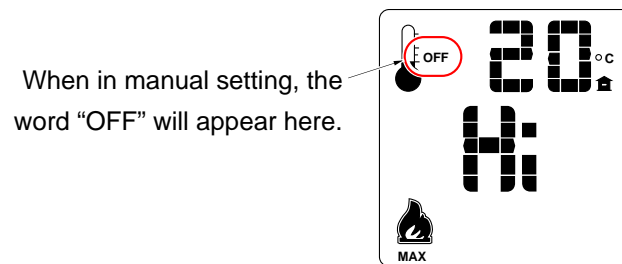

Figure 5
- MANUAL ON/OFF** – The burner will turn on and off using the remote (see Figure 5). Press the On/Off button to control the burner. When off, the display will only show the current temperature.